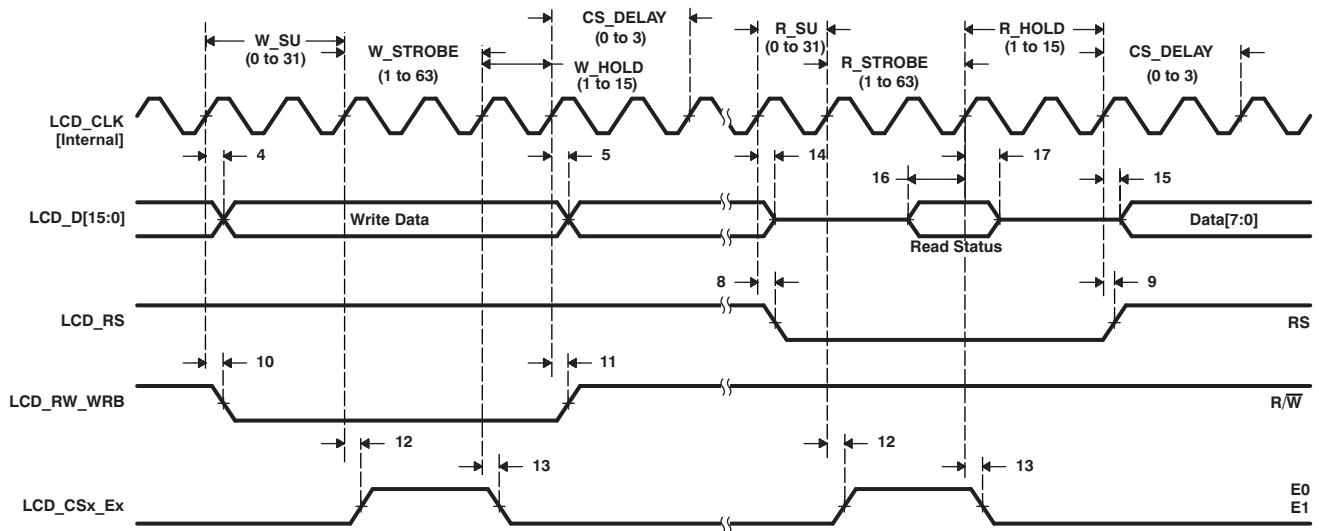
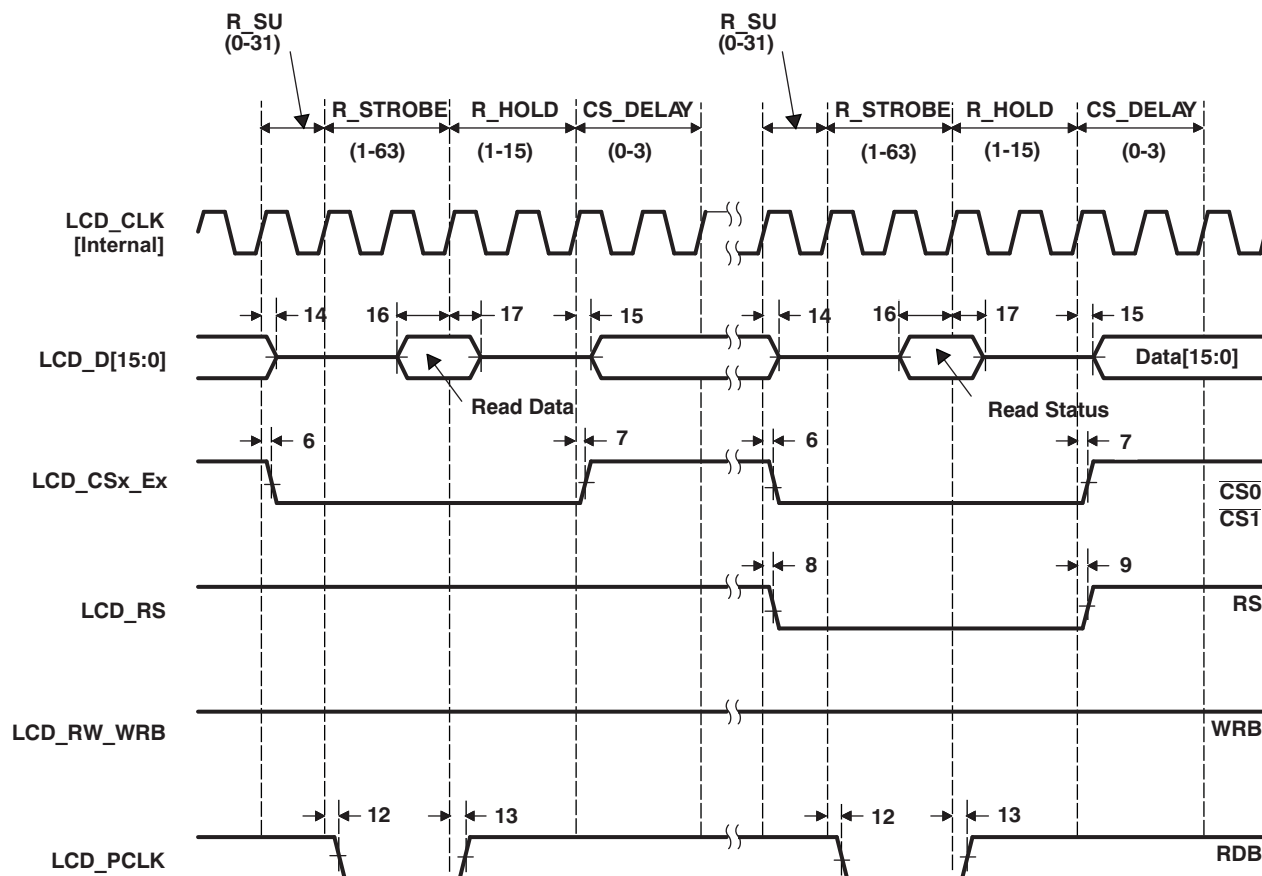

Figure 5-30. Character Display HD44780 Write
Figure 5-37. Micro-Interface Graphic Display 8080 Status
**Table 5-42. Timing Requirements for LCD LIDD Mode(1) (see Figure 5-30 through Figure 5-37)**
(1) Over operating free-air temperature range (unless otherwise noted)
**Table 5-43. Switching Characteristics Over Recommended Operating Conditions for LCD LIDD Mode (see Figure 5-30 through Figure 5-37)**